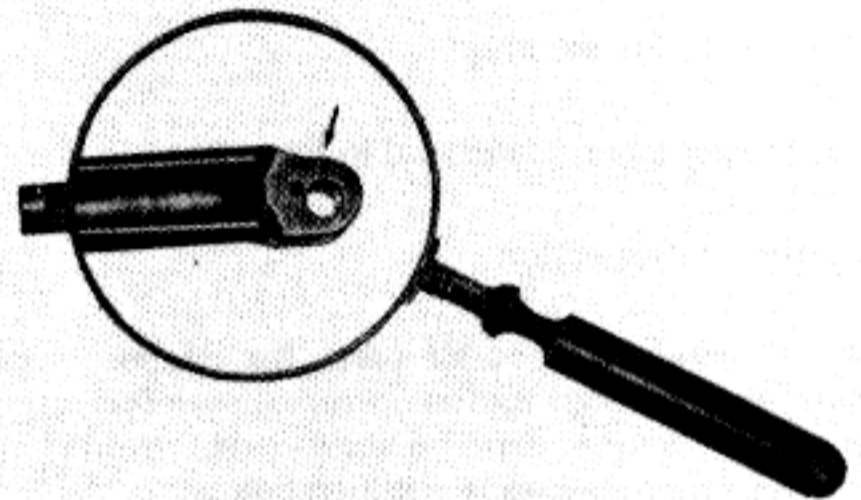

Fig. 150. Points to inspect on hammer spring housing.
73. Hammer spring housing: the hammer spring housing usually fails as a result of breakage. Inspect for cracks at the point indicated in Fig. 150. This is a visual inspection only.